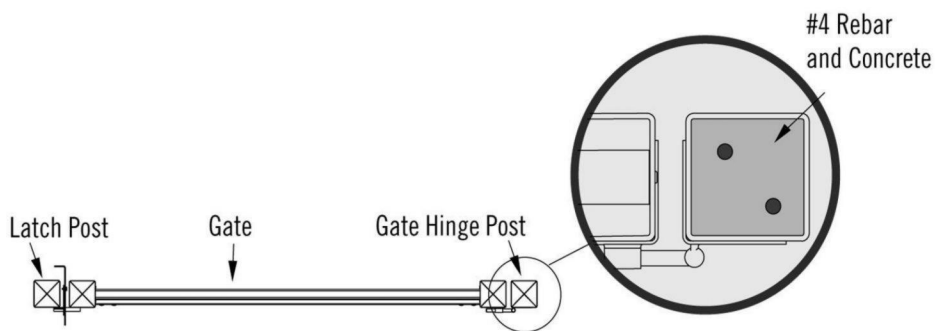

Fig. 7 Reinforced Gate Posts
- Install hinges and latch prior to setting posts and pouring concrete. Reinforce hinge and latch posts with two 6' pieces of #4 rebar (Fig. 7).